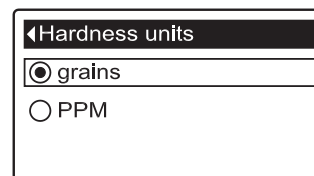

FIG. 47
1. From any of the rolling status screens, press the SELECT (O) button to display the **Main menu**.
3. Press the SELECT (O) button to display the User preferences menu.
5. Press the SELECT (O) button to display the Hardness units menu (See Figure 47).
6. If the desired hardness unit already has a black dot next to it (See Figure 47), go to Step 7. Otherwise, press the DOWN (▼) or UP (▲) buttons to scroll to the other hardness unit, then press SELECT (O) to choose it.
7. Press the SELECT (O) button. The display will go back to the User preferences menu.